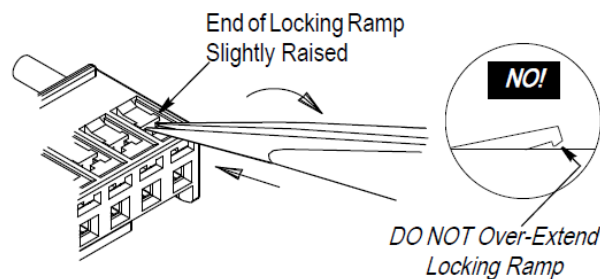

Figure 4
- Slightly squeeze the tweezer, and slide the tweezer tips along the locking ramp. Slowly pivot the tweezer downward so that the end of the locking ramp raises slightly. **Note:** only enough to clear the contact locking window. See Figure 4.